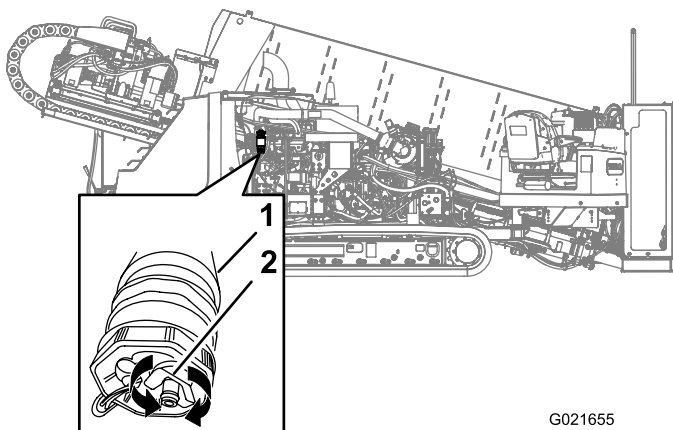

Figure 127
3. Align a drain pan under the secondary-fuel filter (Figure 127).
and drain any water and sediment from the fuel filter (Figure 127).